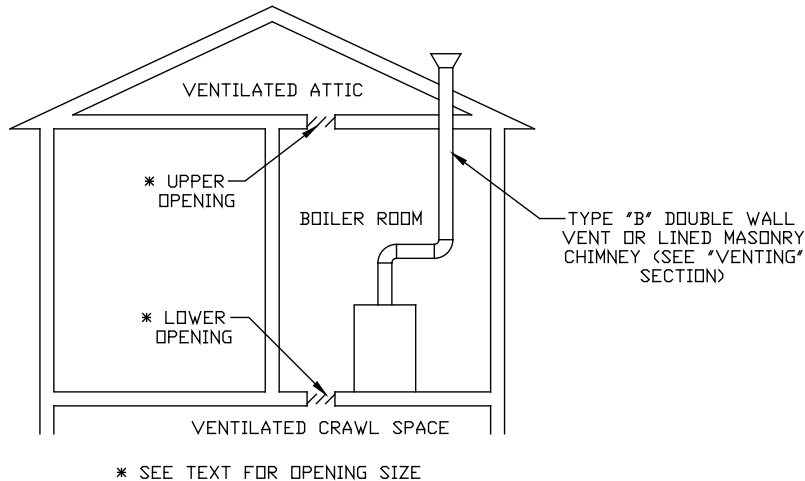
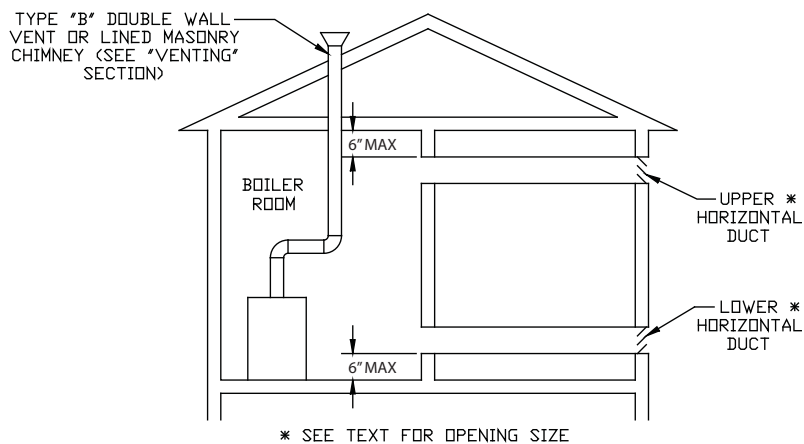
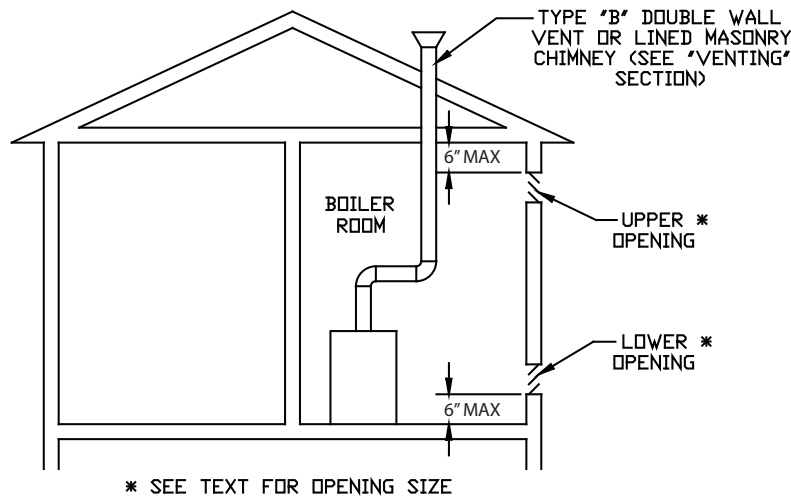

Figure 6-2: All Air From Outdoors, Ventilated Crawl Space and Attic
Figure 6-3: All Air From Outdoors, Via Ventilated Attic
Figure 6-4: Outdoor Combustion Air Method: Using Openings into Boiler Room
- A. Vertical ducts or openings directly outdoors (Figure 6-2, Figure 6-3, and Figure 6-4) - Each opening must have a free cross sectional area of 1 square inch per 4,000 BTU/hr of the total input of all gas-fired appliances in the boiler room. Minimum opening size is 3 inches.